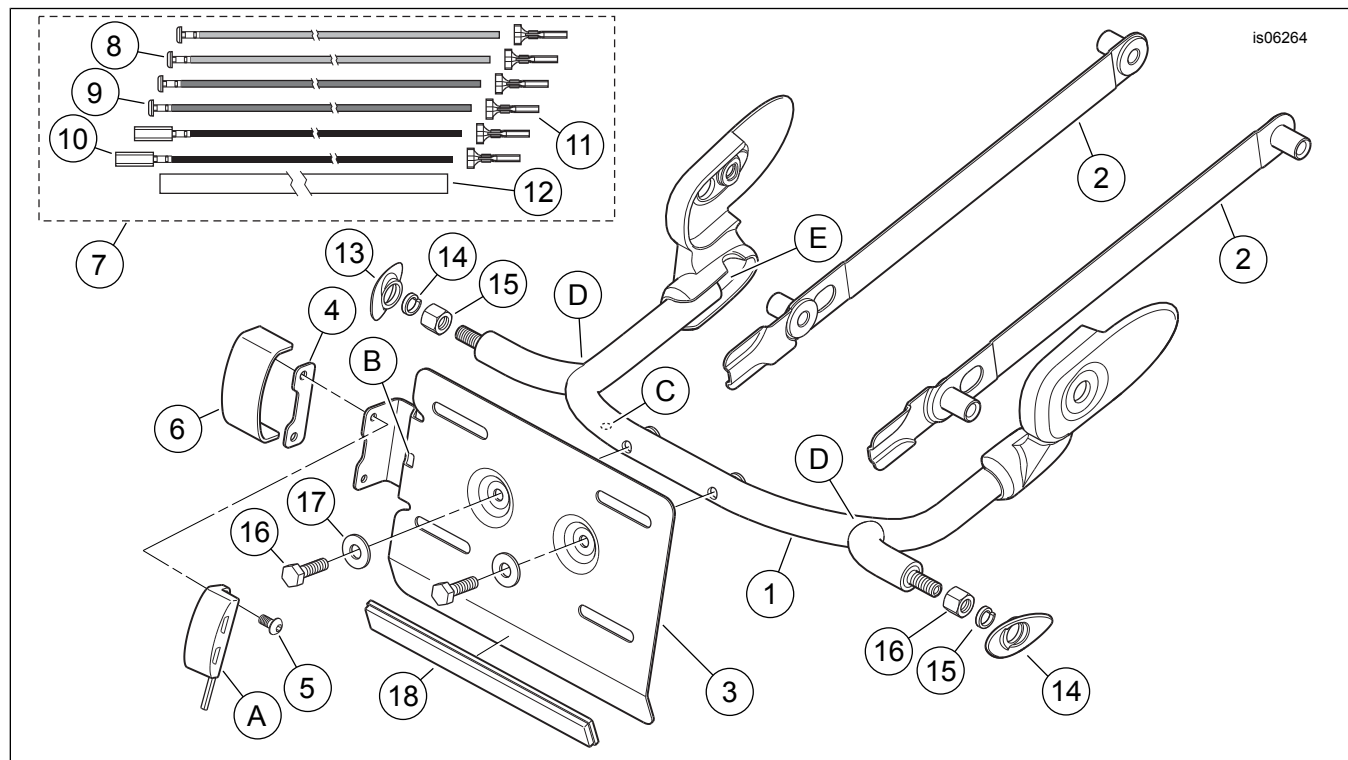

Figure 7. Service Parts, Dyna Rear Stop/Tail/Turn Signal Relocation Kit
17. Insert the terminal of the **new** black wire (10) into the cavity in the rear of the reflector (5) until it clicks into place. Thread the blue wire (12) and violet wire (11) through the center of the reflector (5), and the spring (7), and insert the button terminals into the correct slots and cavities in the reflector bulb socket (6).
20. See Figure 7. Get the protective tubing (12) from the kit, and cut into two equal-length pieces.
5. See Figure 7. Get two **new** terminated wires, one black (10), and one blue (8), from the kit. The two violet (9) wires can be discarded.
14. See Figure 7. Place a lockwasher (14) onto one of the threaded studs on the turn signal relocation weldment. Place a chrome recess cover (13), in the orientation shown, onto the stud.
17. Insert the terminal of the **new** black wire (10) into the cavity in the rear of the reflector (5) until it clicks into place. Thread the blue wire (11) through the center of the reflector (5), and the spring (7), and insert the button terminal into the slot and cavity in the reflector bulb socket (6).